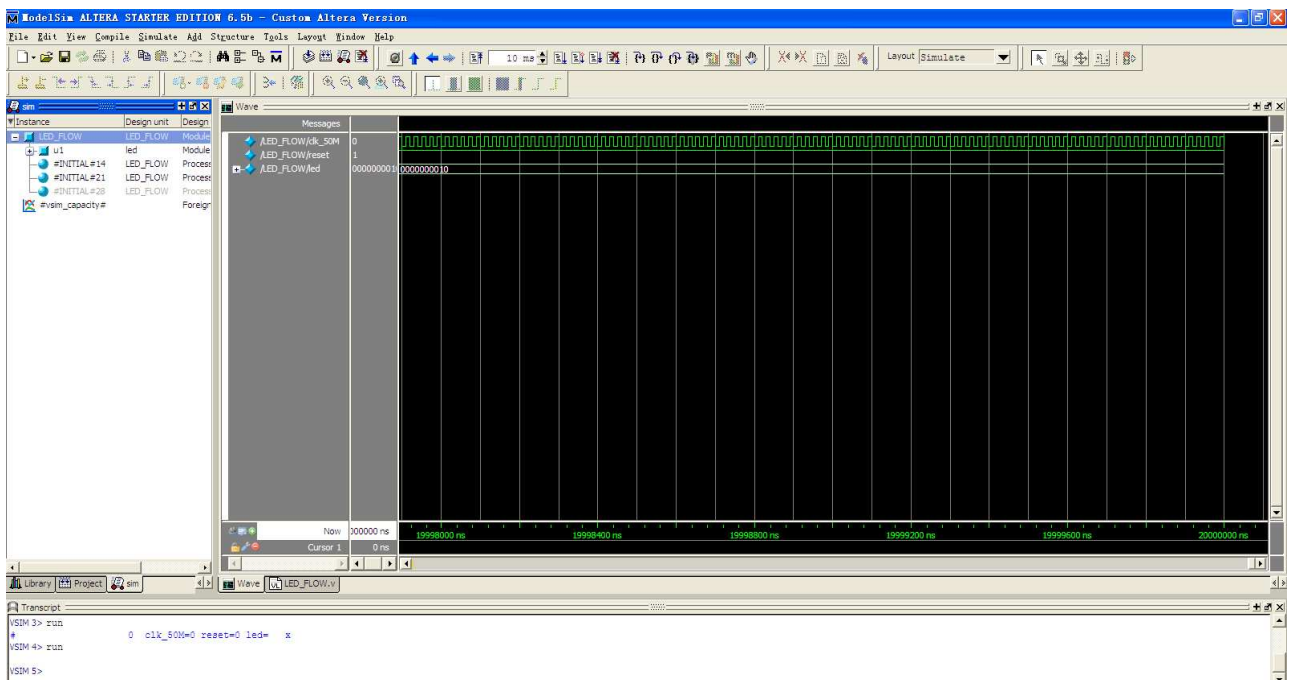

Figure 3.7 Display the Simulation Result
8. Running for about 3 seconds, the Simulation Result shown in Figure 3.7 will appear.